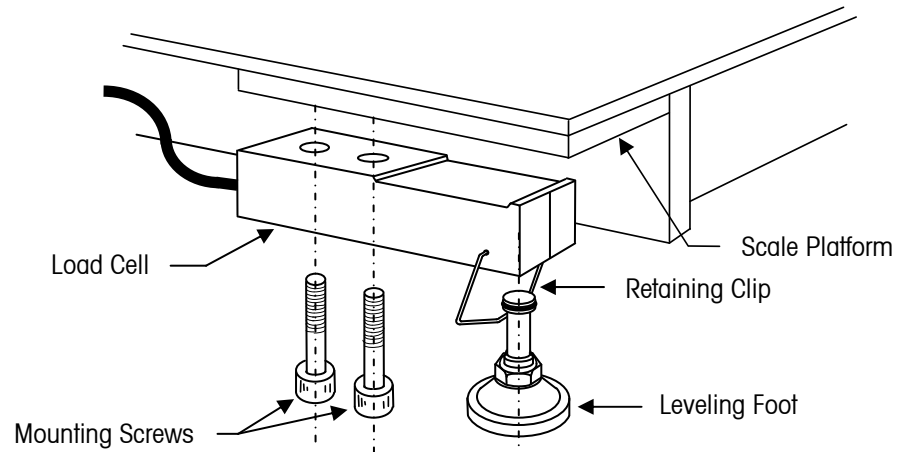

Figure 6-1: Load Cell and Leveling Foot Assembly (Corner Guard Removed)
8. Remove the two 1/2-13 UNC screws that mount the load cell to the underside of the scale platform (see Figure 6-1). Keep the screws for installing the new load cell. Then lift the load cell from the mounting surface.